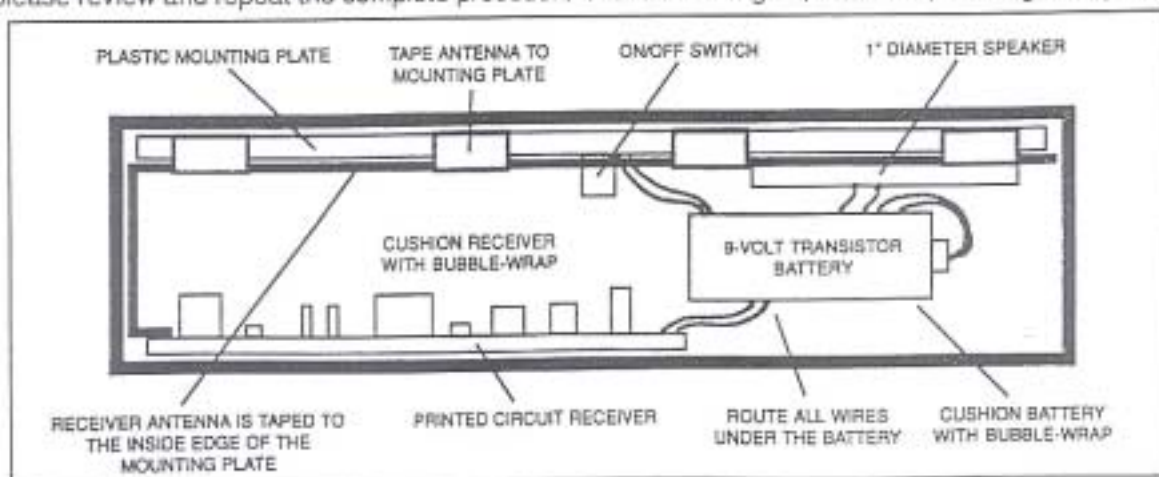

Figure 8: Installation of the On-Board Speaker System into an HO scale, 41' Wooden Stock Car.
2. The correct position of the 8" black Receiver Antenna is critical to the On-Board Speaker System's operation. Use a few small pieces of tape to fasten the Receiver Antenna along the inside edge of the mounting plate, *exactly* as it is illustrated in Figure 8.